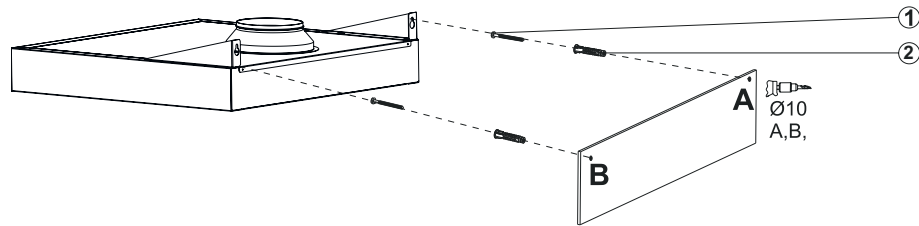

Fig. 8
Raw plugs must be (2) for the holes in points A and B and insert the screws. (1). The distance between the screw head and the wall must be 5mm (Fig. 8).